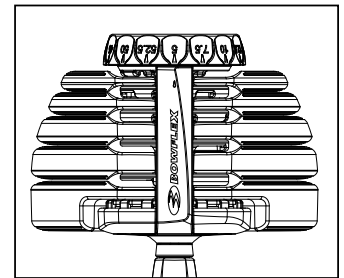

Figure 1
3. The weight increments range from 5 to 52.5 lbs (2.27kg to 23.9kg) on both adjustment knobs. To properly select a given weight (20 lbs [9kg] for example), rotate both adjustment knobs until that number (20) is aligned with the arrow located on the outward edge of the Bowflex® nameplate (Fig.1).